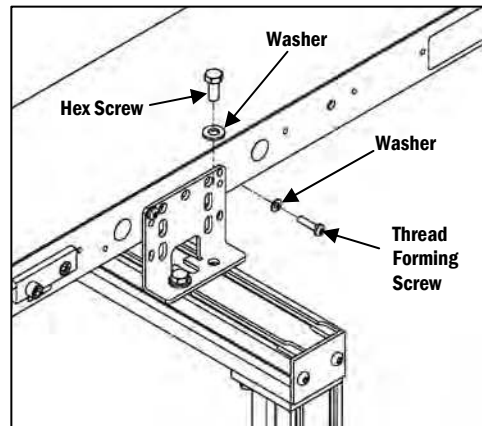

Figure 5
- b. Place the Mount over the Square Nuts, and thread a 5/16-18 x 3/4" Hex Head Screw with 5/16" Flat Washer through the mount and into the Square Nut (**Figure 5**). Leave the assembly slightly loose for adjustment in the next step.